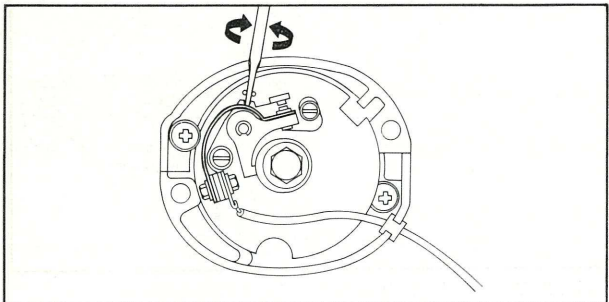

Fig. 3-34 Adjustment of point gap
- 2) When setting the gap, loosen screws and adjust braker assembly with screw driver as shown in Fig. 3-34.
- a. Connect 6 V battery and 6 V–3 W lamp as shown in Fig. 3-34.